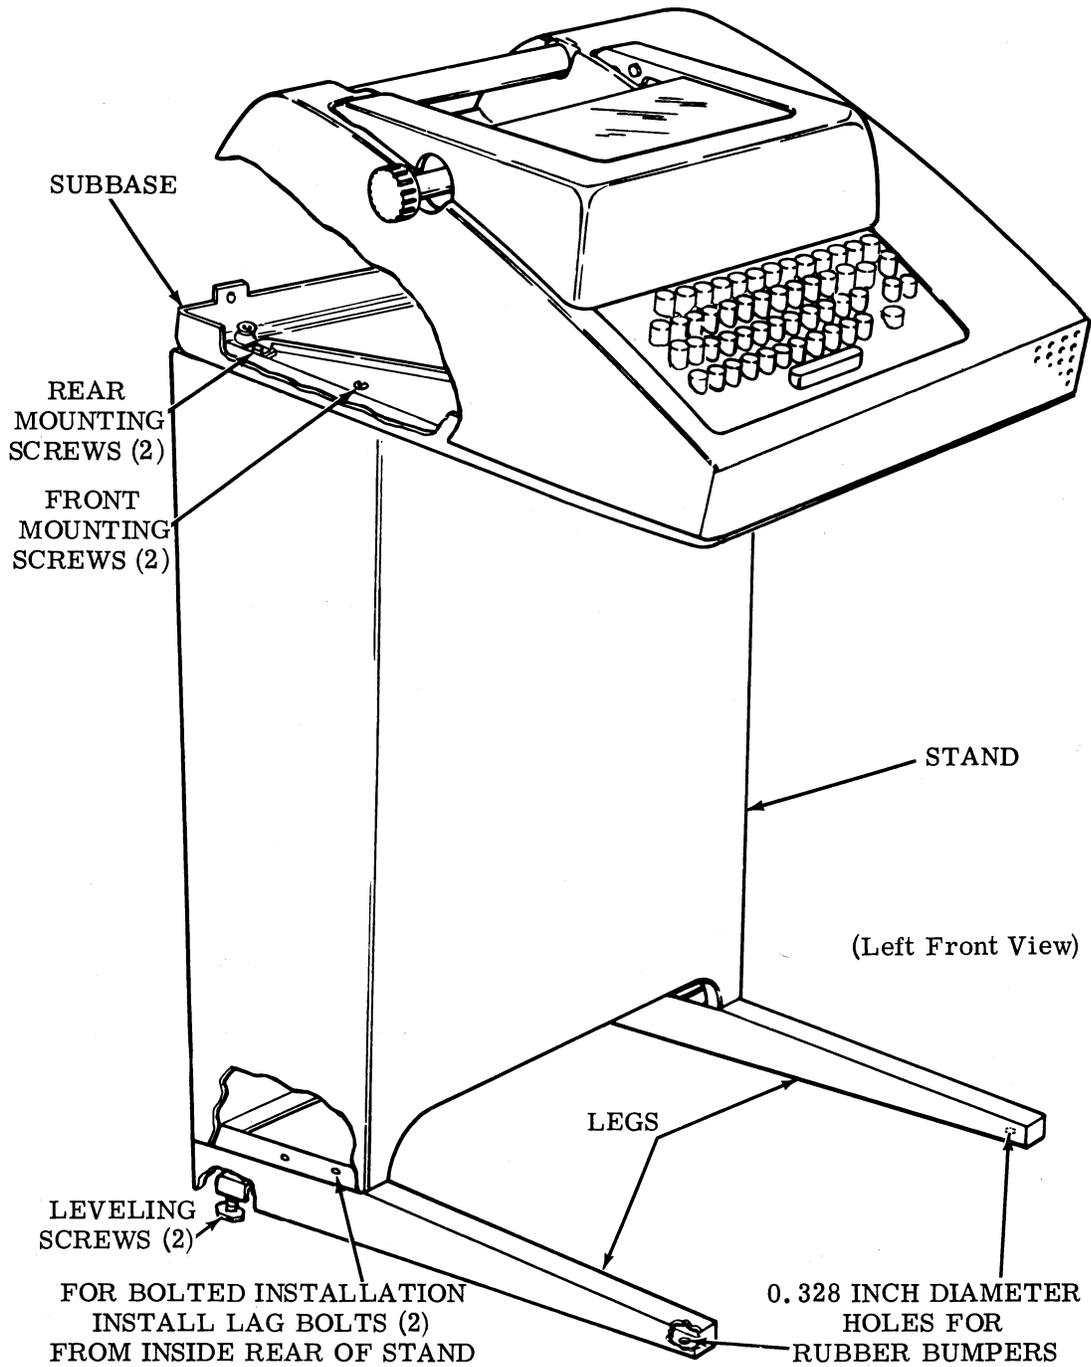

Figure 3 - Stand Leveling and Anchoring and Assembly of Subbase with Typing Unit to Stand
2.01 If the teletypewriter set is to be bolted to the floor, remove the front screw in each leg of the stand (Figure 3).
2.18 Figure 3 illustrates the facilities for leveling and anchoring the stand.